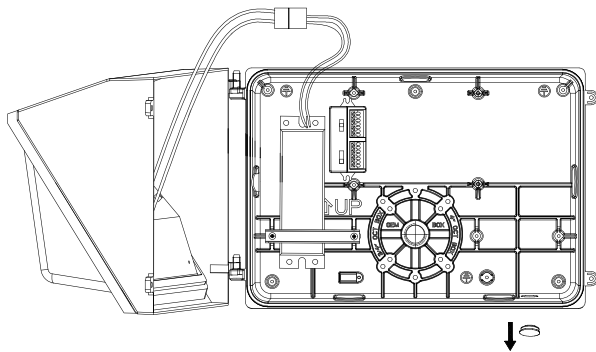
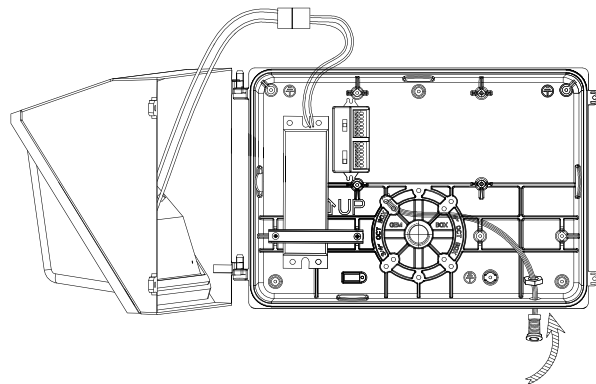

Fig1
Fig2
1. Remove the drain plug and insert the test button. (Fig 1) (Fig 2)